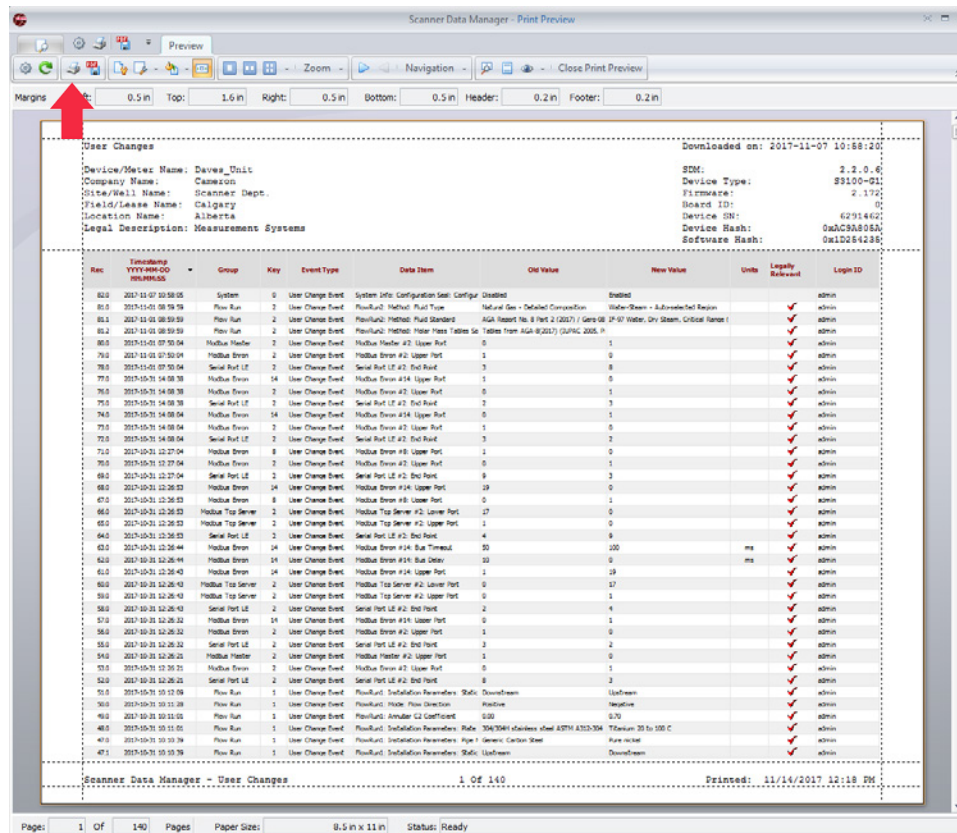

Figure 4.21—Print button location
- From the *Print Preview* screen, click the **Print** button to print the report (Figure 4.21 1, page 62).